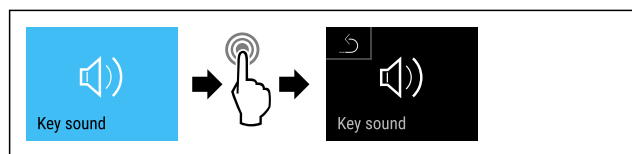

Fig. 113
- ▶ Complete steps (see Fig. 113) .